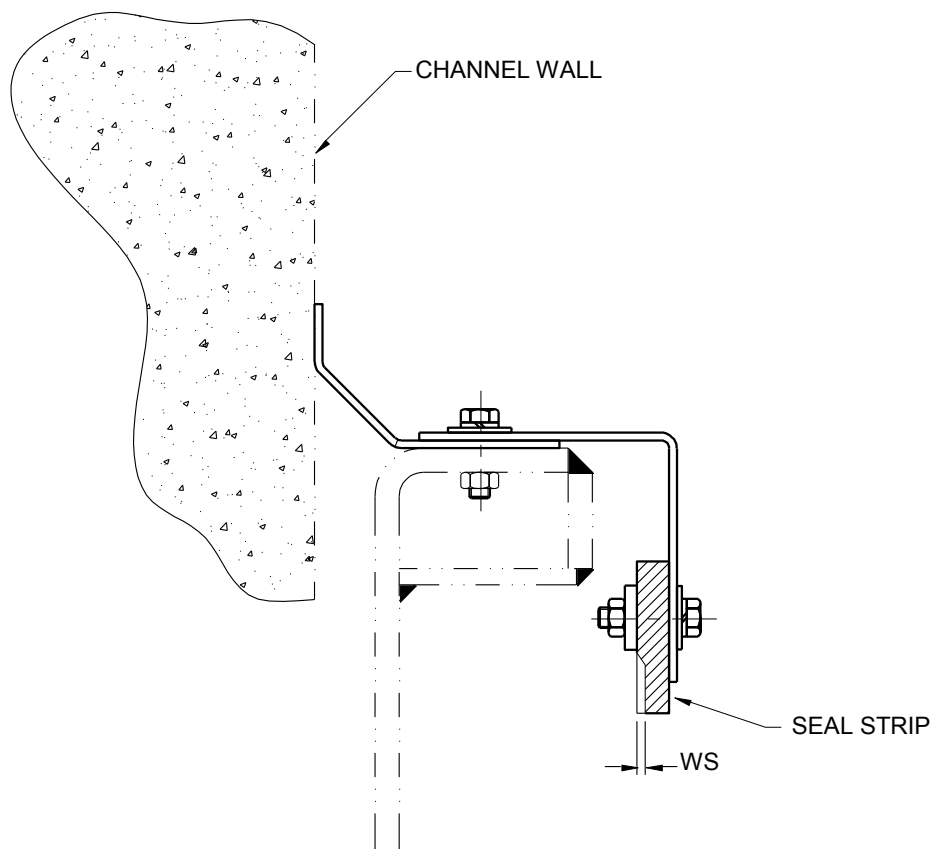

Figure 4-25. Upper Side Seal Strip Wear Measurement
Refer to Figure 4-25. After six months of operation, check the wear thickness (WS) of the seal strip. If WS is greater than or equal to 3.2 mm replace the seal strip.